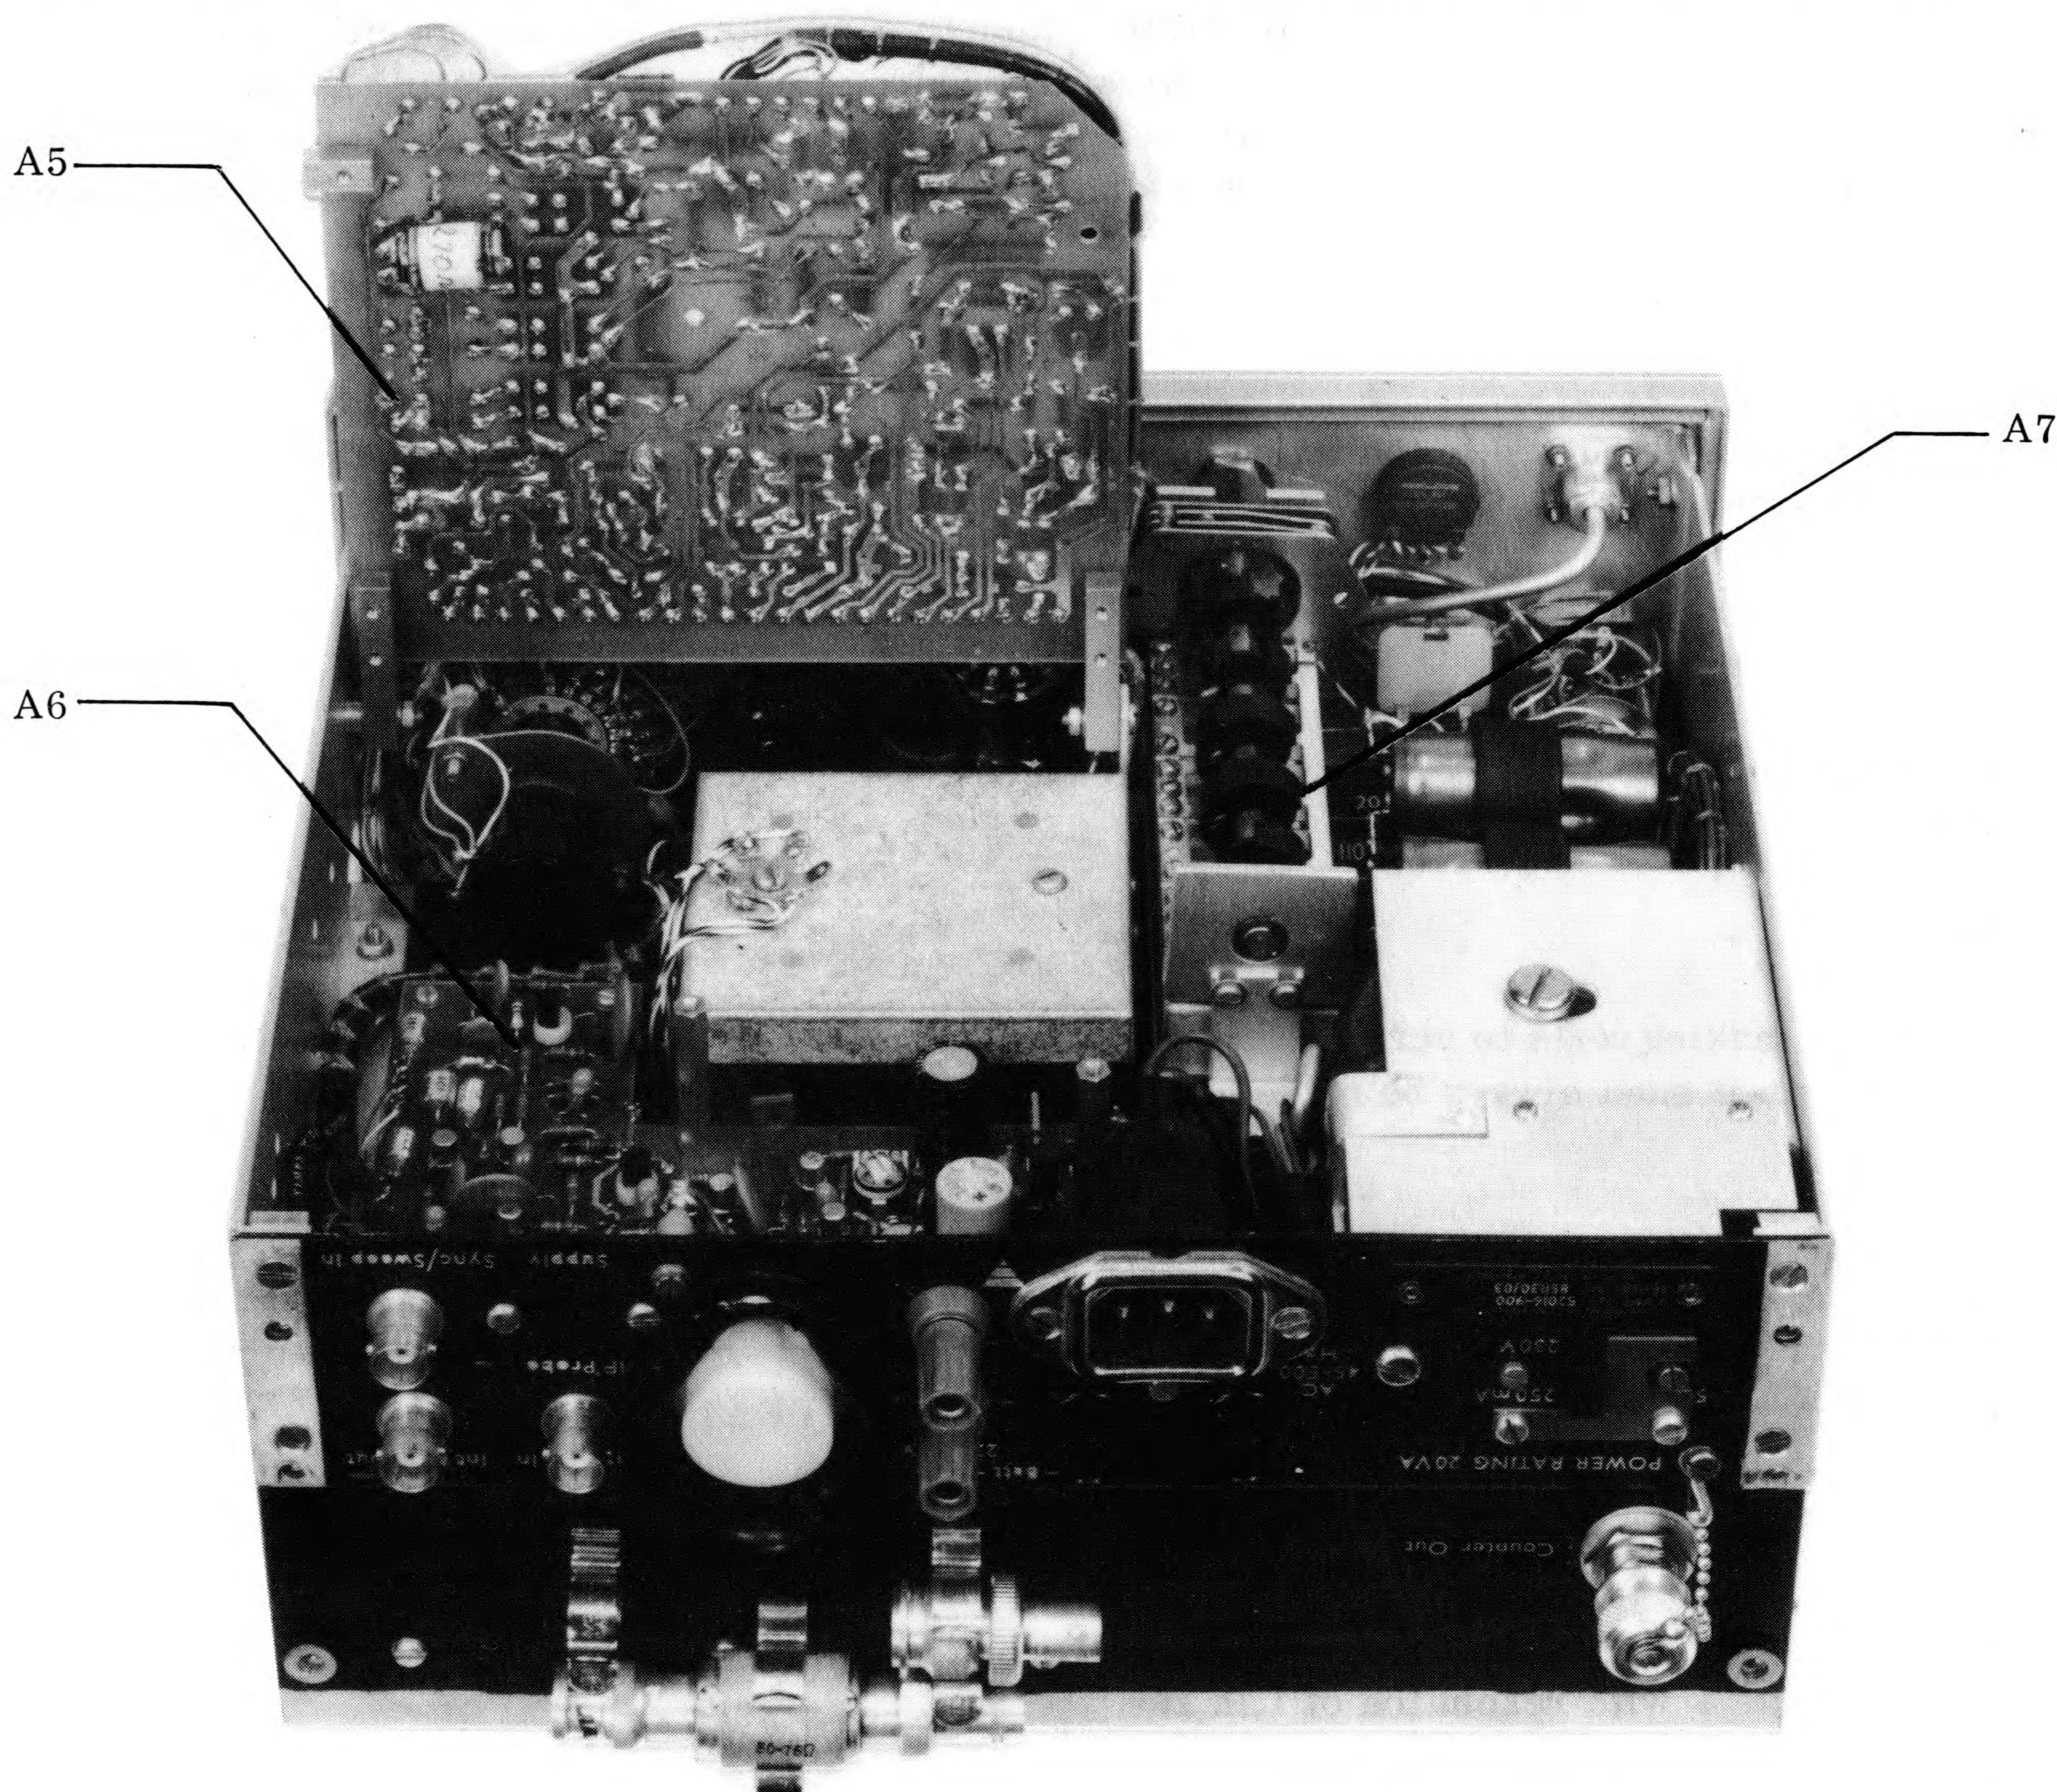

Fig. 2 Bottom view showing boards A5 to A7
6. The position of these units is shown in Fig. 2 and both are directly accessible from the underside of the instrument. A5 is retained by the two M2.5 screws, one of which is near the middle of the board, and one M3 screw which fixes the mounting block to the side frame of the